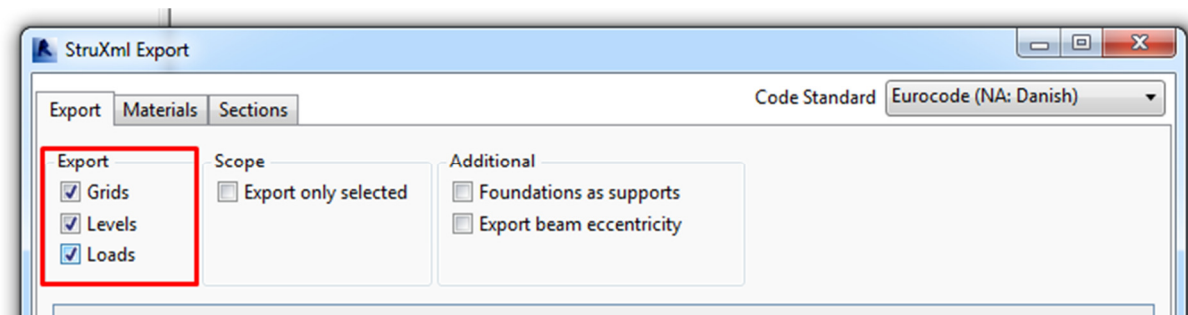

Figure II-23
- If the option to *Export Grids* (Figure II-23) is selected, all the grids will be exported to FEM-Design.
- If the option to *Export Levels* is selected (Figure II-23), all the levels will be exported to FEM-Design.
In order to export loads and load cases one should select the *Loads* to be exported in the *StruXml Export* dialog, as shown in Figure II-23.